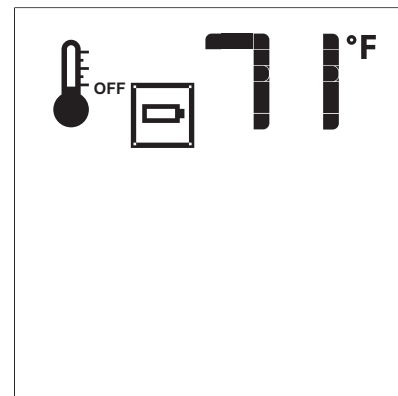

Figure 25
- When the transmitter batteries are low, an Icon will appear on the LCD display of the transmitter. See Figure 25 before all battery power is lost. When the batteries are replaced this Icon will disappear.